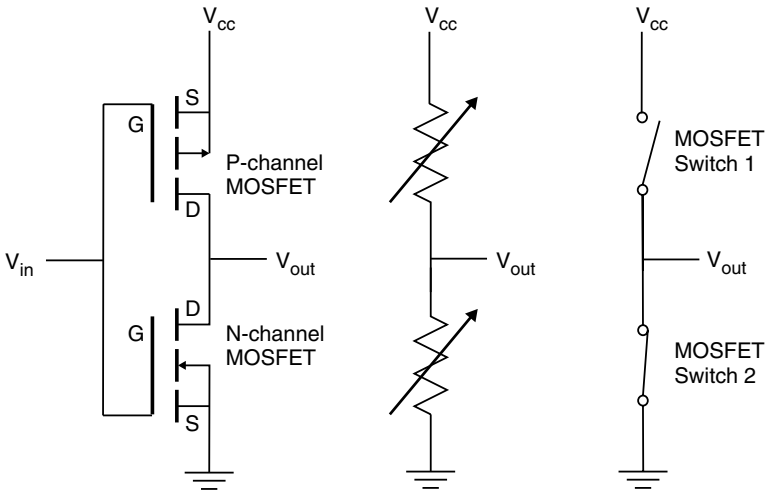
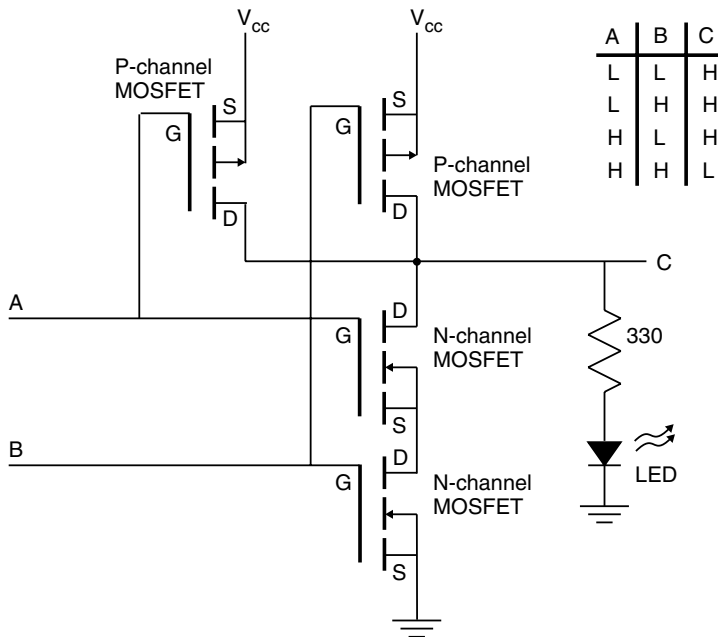

Fig. 10.8. Schematic representations of a CMOS inverter constructed using one N-channel and one P-channel MOSFET.
Fig. 10.9. Schematic representation of a CMOS NAND gate with LED logic-level indicator.
MOSFETs can thus be combined in parallel to create an inverter, as shown in Fig. 10.8. A NAND gate can be constructed by adding two more MOSFETs (see Fig. 10.9). The inverter operates as follows.
- ▷ Build the gate shown in Fig. 10.8 and determine its function.
The inverter can be converted to a NAND gate with the addition of two more MOSFETs. Do so as shown in Fig. 10.9. Connect the output to a logic indicator.